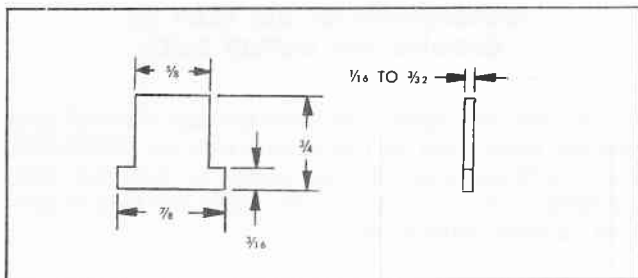

Fig. 16 Seat Back Retainer Bumper
1. Obtain rubber stock (semi-hard), 1/16 to 3/32 inch thick and cut out two (2) bumpers as shown in Fig. 16. Use one bumper for right side and one bumper for left side of body. Do not use foam rubber. NOTE: Drawing is not actual size.